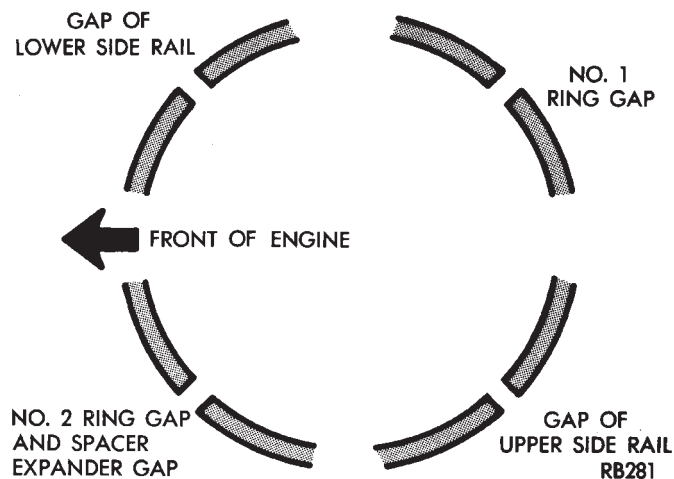
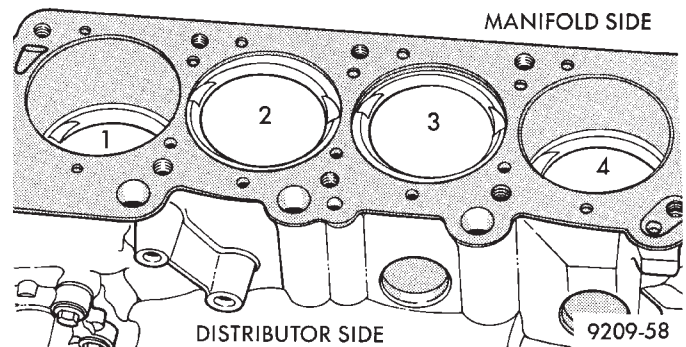

Fig. 13 Piston Ring End Gap Position
Fig. 15 Piston Markings
- (1) The No. 1 and No. 2 piston rings have a different cross section. Install rings with manufacturers I.D. mark facing up, to the top of the piston. (Fig. 13)
(5) Position piston ring end gaps as shown in (Fig. 13).
(6) Position oil ring expander gap at least 45° from the side rail gaps but **not** on the piston pin center or on the thrust direction. Staggering ring gap is important for oil control.
(1) Before installing pistons, and connecting rod assemblies into the bore, be sure that compression ring gaps are staggered so that neither is in line with oil ring rail gap.
(2) Before installing the ring compressor, make sure the oil ring expander ends are butted and the rail gaps located as shown in (Fig. 13).
(3) Immerse the piston head and rings in clean engine oil, slide the ring compressor, over the piston and tighten with the special wrench. **Be sure position of rings does not change during this operation.**
(4) The valve cut should be toward the manifold side of the engine. (Fig. 15)